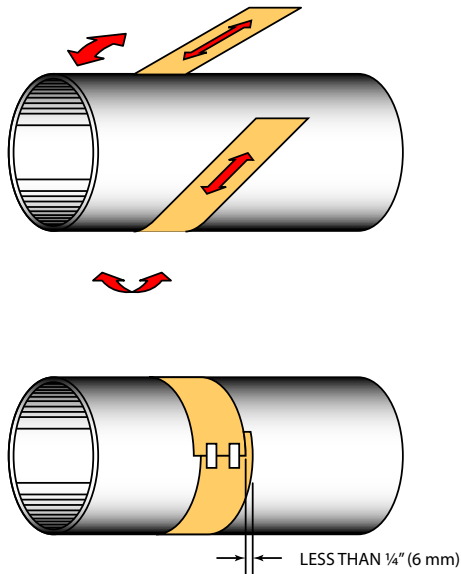

Figure 22: Paper template alignment
1. Wrap the paper around the pipe in the manner shown in *Figure 22*. Align the paper ends to within 1/4 inch (6 mm).